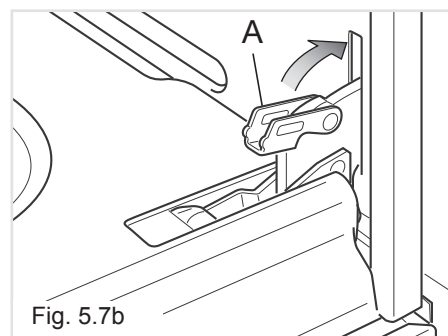

Fig. 5.7b
- Fully close the levers "A" on the left and right hinges, as shown in the figure 5.7b.